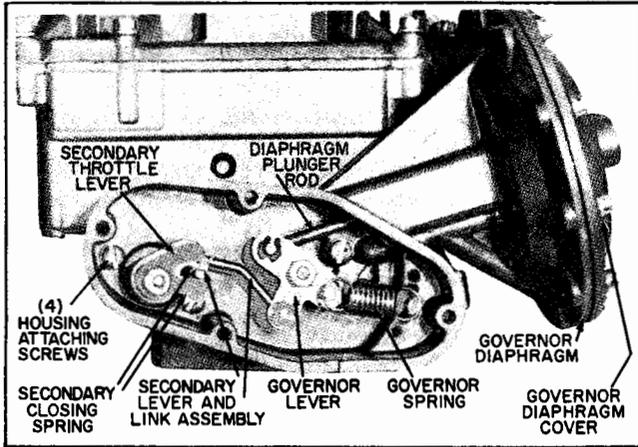

FIGURE 20
Disassembly of 4G Governor (Fig. 20)
1. Install new gasket on governor housing, then install governor housing on throttle body using (4) attaching screws and lockwashers. Tighten securely.
2. Install governor lever, link and secondary valve actuating lever as shown (Fig. 20). Make sure "D" hole in primary lever is seated on flat of primary throttle shaft.
3. Install secondary throttle closing spring and secondary throttle lever on throttle shaft. Make sure flats on lever are seated on shaft. Install (2) lockwashers and $11/32$ " nuts on ends of throttle shafts to retain levers. Tighten securely.
8. Install governor housing side plate using (4) attaching screws and lockwashers. Tighten screws securely.
9. Install throttle lever and bearing assembly using new gasket. Install (4) attaching screws and lockwashers. Tighten securely.